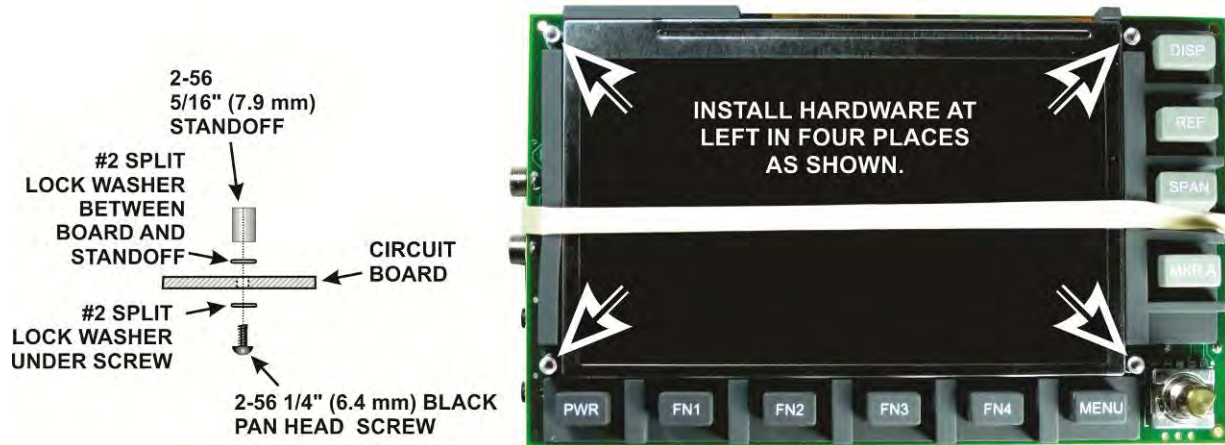

Figure 24. Mounting the Front Panel Standoffs.
□ Remove the front panel display board from its anti-static packaging. Do not remove the rubber band, It is holding the LCD in place. Mount four 2-56 5/16" (7.9 mm) standoffs on the front panel display board as shown in Figure 24. Be sure to place one lock washer between the standoff and the pc board as shown. This lock washer is important to establish the proper height of the standoff.